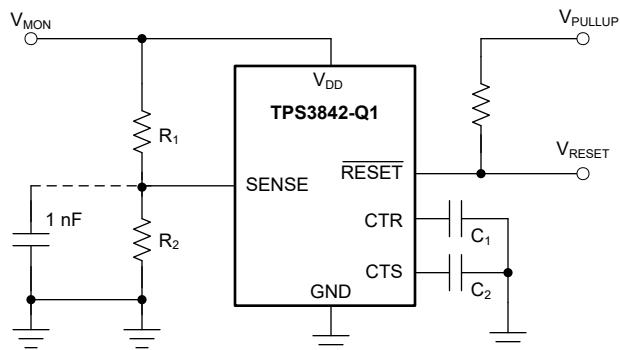

Figure 7-5. Using the TPS3842A011DRLRQ1 to Monitor a User-Defined Threshold Voltage
Figure 7-5 illustrates an example of how to adjust the voltage threshold with external resistor dividers. The resistors can be calculated depending on the desired voltage threshold and device part number. TI recommends using the 700mV threshold option when using an external resistor divider. The variant bypasses the internal resistor ladder for higher accuracy when using external resistors.
For example, consider a 12V rail,  $V_{MON}$ , being monitored for undervoltage (UV) using of the TPS3842A011DRLRQ1 variant, as shown in Figure 7-5. The monitored UV threshold, denoted as  $V_{MON-}$ , is the desired voltage where the device asserts the reset. For this example  $V_{MON-} = 5.8V$ . To assert an undervoltage reset the voltage at the sense pin,  $V_{SENSE}$ , needs to be equal to the input threshold negative,  $V_{ITN}$ . For this example variant  $V_{SENSE} = V_{ITN} = 0.7V$ . Using  $R_1$  and  $R_2$  the correlation between  $V_{MON-}$  and  $V_{SENSE}$  can be seen in Equation 1. Assuming  $R_1 = 100\text{k}\Omega$ , and  $R_2$  can be calculated as  $R_2 = 13.7\text{k}\Omega$ .